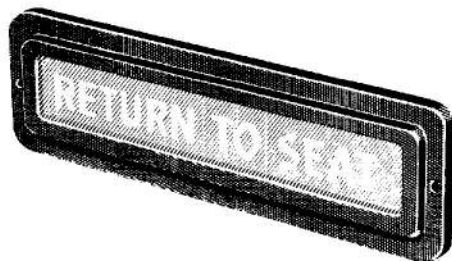

Fig. 1. Typical notice sign
3. The Thorn notice signs, a typical example of which is shown in fig. 1, consist of flat, glass fronted plates, which are normally mounted in a metal frame for ease of installation, and backplates to which electrical connection is made. The backplate incorporates the nuts to which the front plate is secured and the terminal blocks and leaf-spring contacts. The terminal blocks have 6 B.A. terminal studs suitable for ring type tags, and the leaf-spring contacts bear onto the sign-plate contact studs.